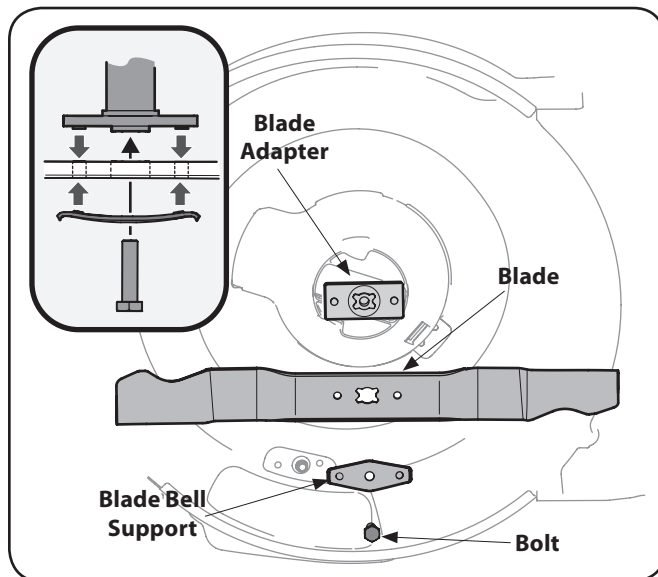

Figure 7-1
2. Remove the bolt and the blade bell support which hold the blade and the blade adapter to the engine crankshaft. See Fig. 7-1.
3. Remove blade and adapter from the crankshaft. See Fig. 7-1.
operating position. Make sure that the blade is aligned and seated on the blade adapter flanges. See Fig. 7-1 inset.